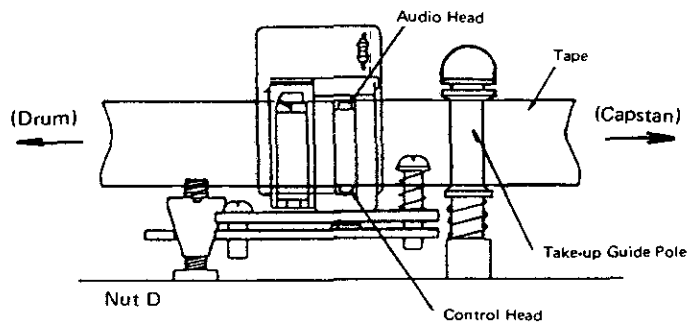

Fig. 34 Control head phase adjustment
- Tighten adjustment nut slide the A/C head assembly slowly in the direction of the arrow as shown in Fig. 34.
- Set the A/C head assembly to the position where first maximum FM level is obtained. Put screw Locking glue on the nut (D).